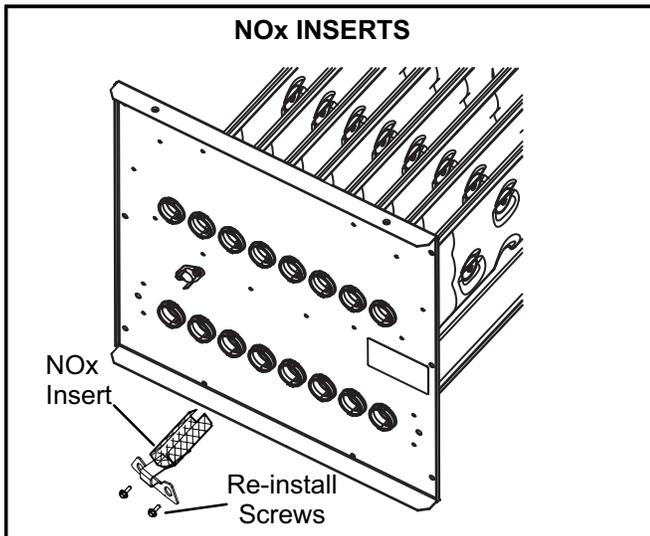
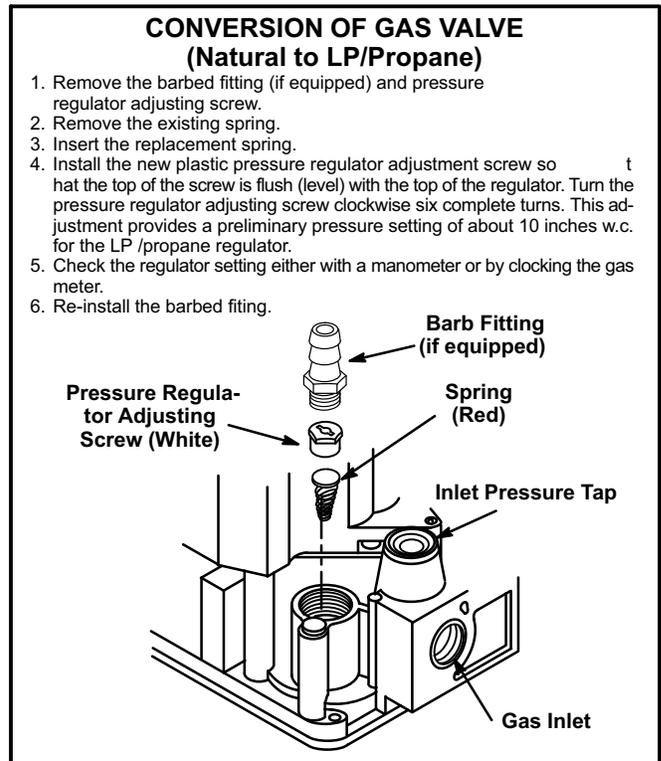

FIGURE 1
FIGURE 7
- 6 - Replace the gas valve regulator spring. See figure 7.
- 7 - **ML180(X), EL180(X) and 80AF1(X) NO_x units being converted from natural to LP /Propane.**
- b - Remove the screw which secures each of the NO_x inserts to the clamshell. **Remove the NO_x inserts and reinstall the screw. See figure 1.**